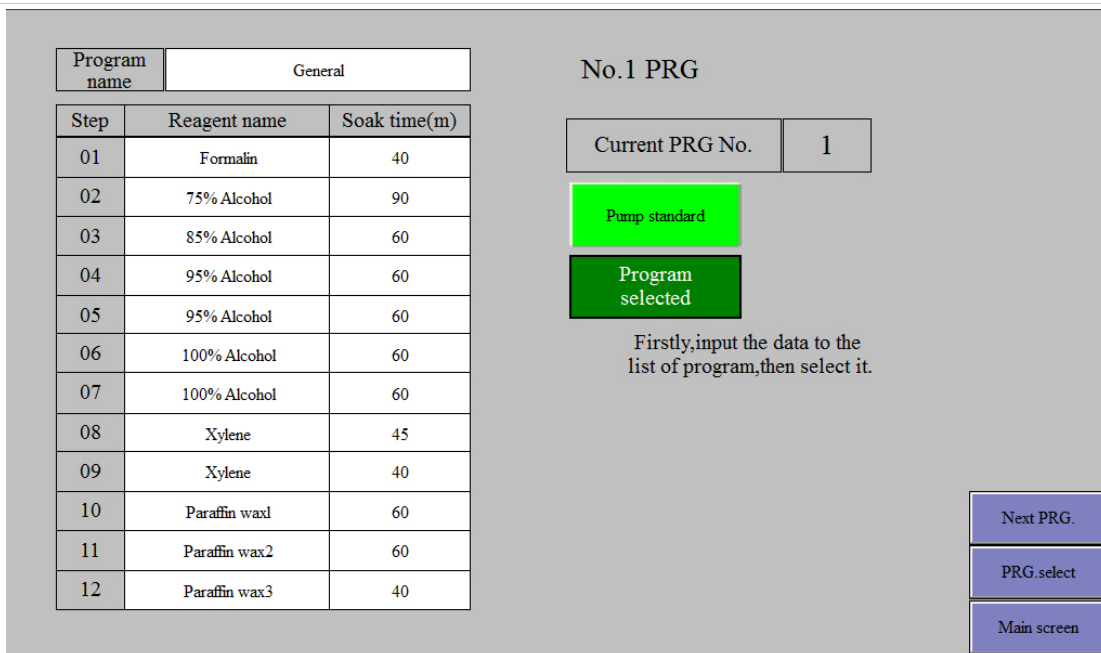

Fig 16
*Click the number to set the soaking time of each step, the unit is minute, range is 0-300 minutes. Figure 16 shows the reference procedure.